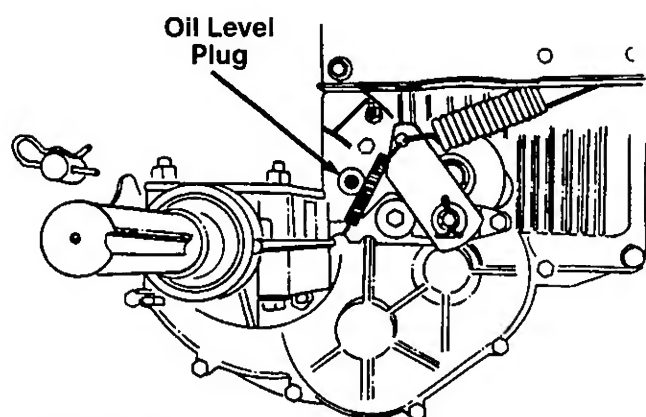

FIGURE 20.
5. Using a 1/4" allen wrench, remove the oil level plug from right side of transaxle. See figure 20.